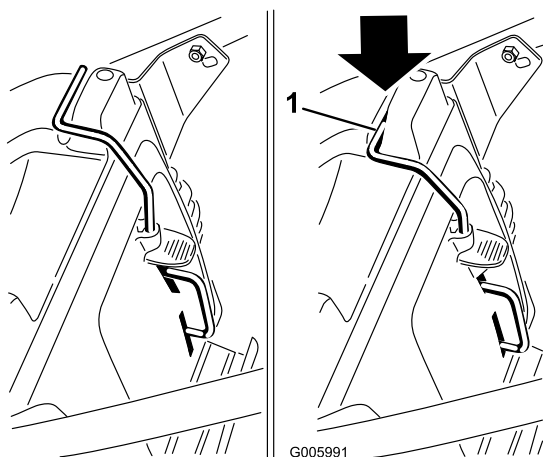
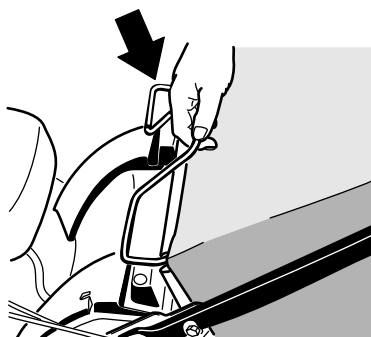

Figure 21
Figure 22
1. Install the mulch plug (Figure 21) or the grass bag (Figure 22) on the mower.